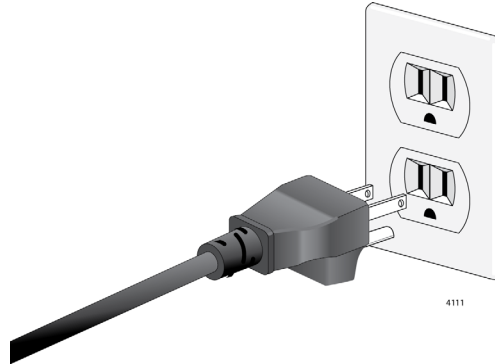

Figure 36. Plug AC Power Cord in to AC Outlet
2. Insert the AC power cord in to and external AC wall outlet as shown in Figure 36.